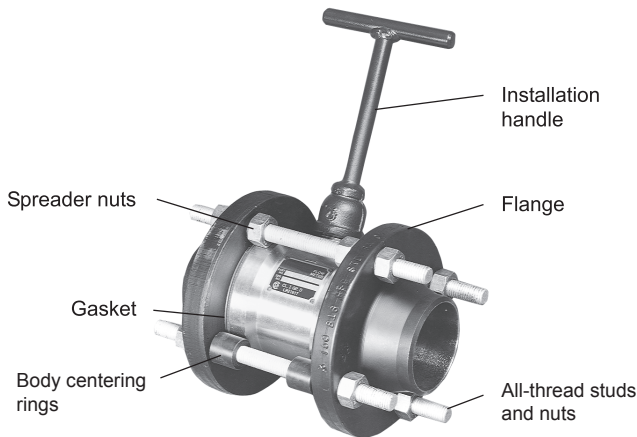
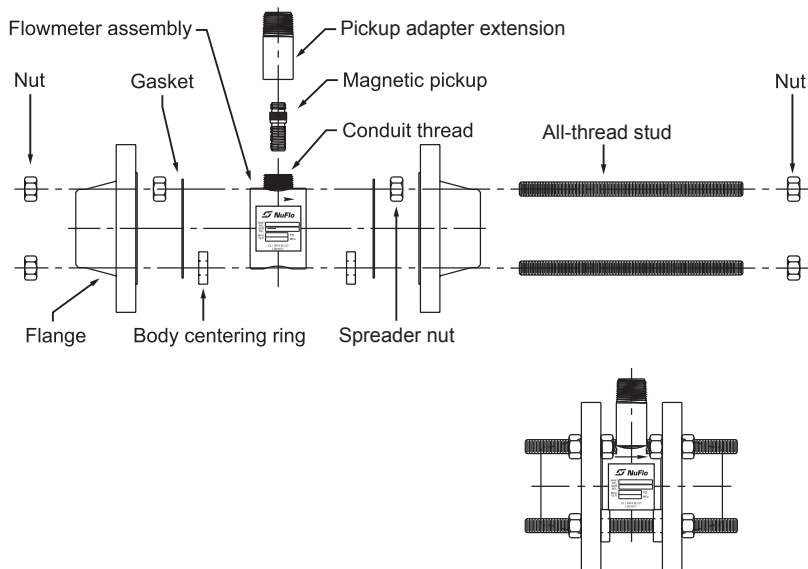

Figure 3—Assembled flowmeter with optional installation handle
Figure 5—Meter installation diagram
An installation handle (Figure 3) is available to allow easier installation and removal (Part No. 9A-100079570). An optional 3/4-in. thin-wall pickup lock-nut socket is also available (Part No. 9A-100013146).
the holes in the bottom half of the flanges (Figure 5, page 13). Install additional nuts inside the flanges, if needed, to separate the flanges while inserting the meter. (See “spreader” nuts in Figure 3, page 8.)
2. Remove the magnetic pickup (Figure 5, Page 13) to avoid damaging it.
5. Lift the meter from between the pipeline flanges, using an installation handle if necessary (Figure 3, page 8).
1. Return the meter to the line, using the body centering rings (Figure 3, page 8) to align the meter with the inside diameter of the flanges. Carefully align the flange gaskets with the flanges to help prevent gasket damage. Use the spreader nuts, if necessary, to position the meter between the flange gaskets.